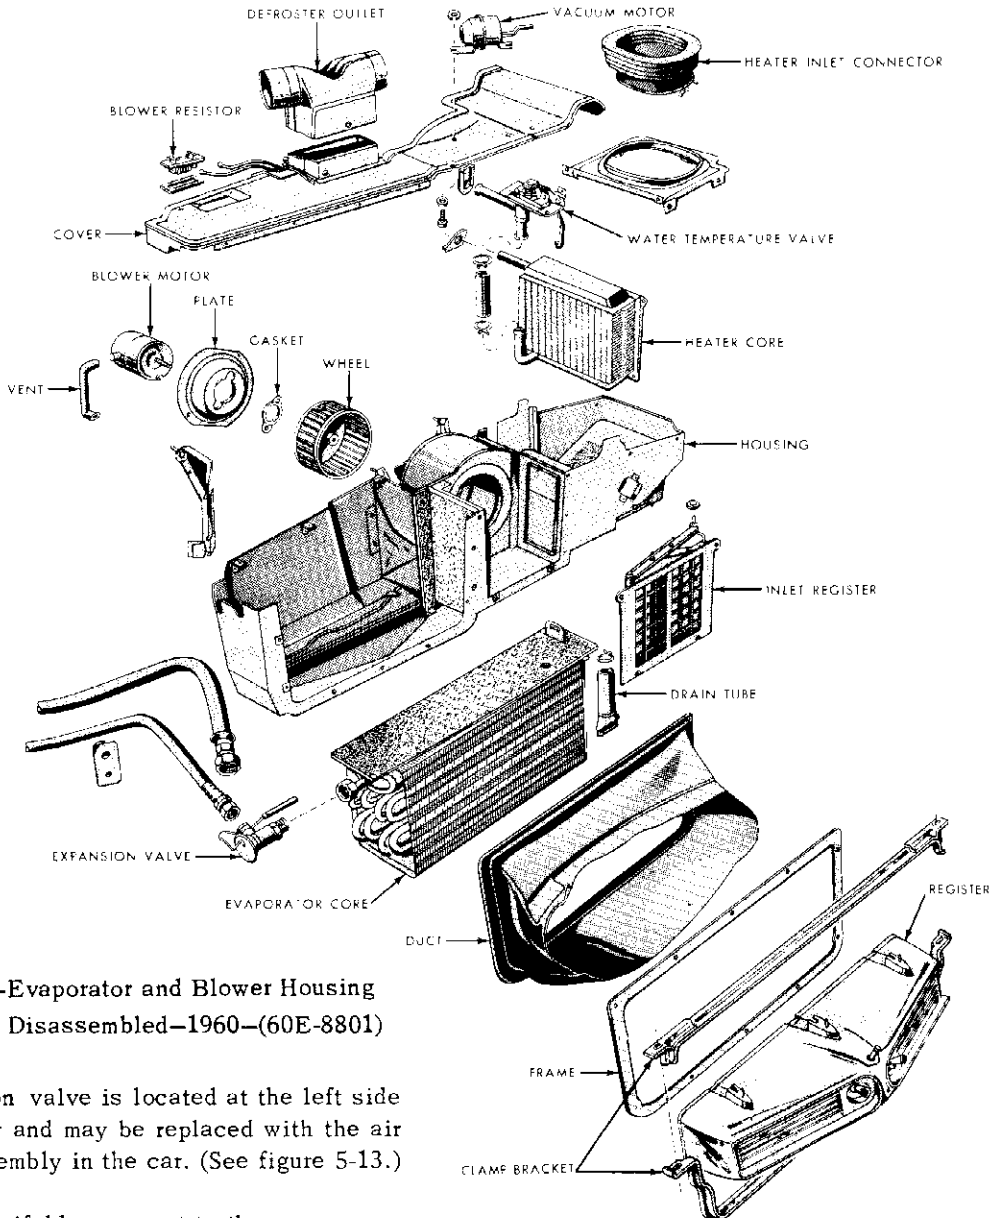

Fig. 5-13—Evaporator and Blower Housing Disassembled—1960—(60E-8801)
The expansion valve is located at the left side of the evaporator and may be replaced with the air conditioning assembly in the car. (See figure 5-13.)
1. Remove the evaporator to "Spot Cooler" duct clamp bracket retaining screws and remove the clamp brackets. Carefully pull the duct away from the "Spot Cooler." (See figure 5-13.)